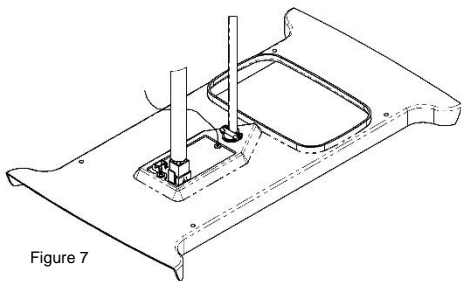

Figure 7
- C. Raise the ceiling assembly chute and insert the supply wiring through the cable clamp and into the wiring box so that 4-6" of supply conductor is inside the box. Secure the cable clamp over the supply wire sheath so that no movement is possible (See Figure 7).
- F. Plug the air conditioner electrical conduit into the 9-position receptacle as shown in Figure 7.
- G. If the optional heater accessory package is being installed, remove the cover from the 2-position receptacle and plug the heater cord into the receptacle as shown in Figure 7.